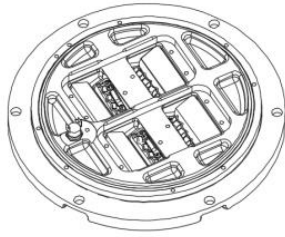

Figure 4-12
- Place the prism pressing bracket and lens washer to the working position and screw the M5×12 screws into the threaded holes after dipping a little of anaerobic adhesive (see Figures 4-12 and 4-13);